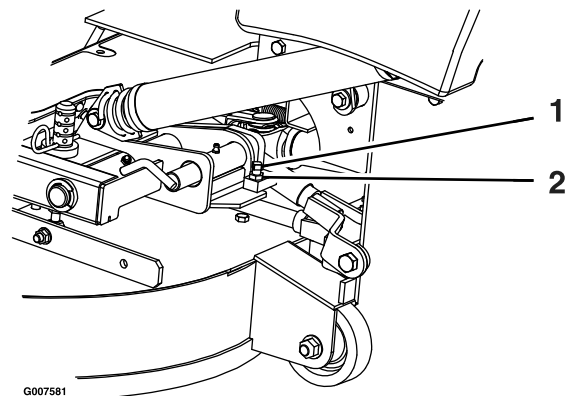

Figure 17
2. Loosen the jam nut and turn the stop screw clockwise until the locking pins is tight and cannot be rotated by hand (Figure 17).